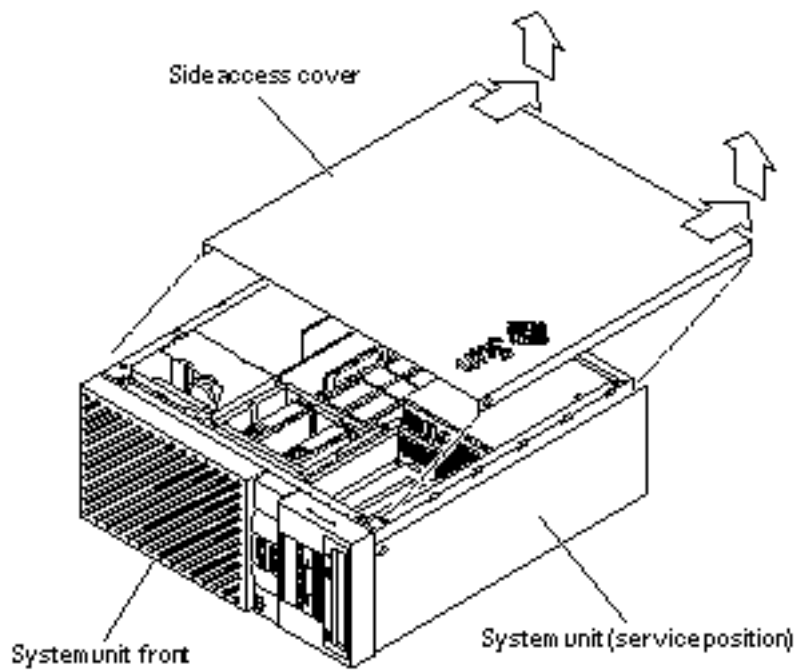

Figure 1-3 Removing the Side Access Cover
- 3. Remove the side access cover (Figure 1-3):**